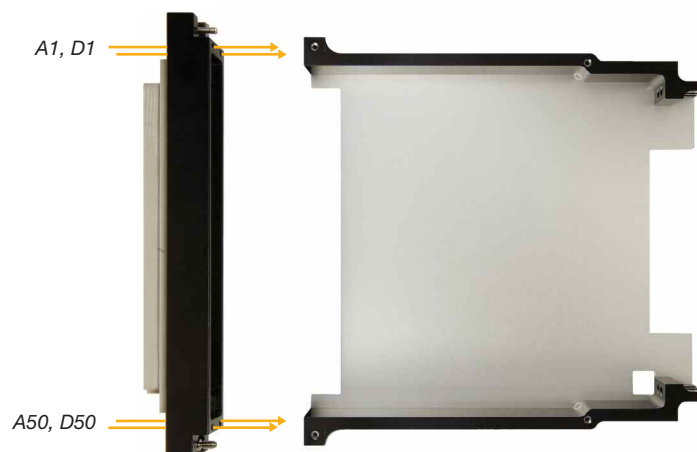

Figure 7 – Assembling carrier to adapter looking down
- b) Remove the four countersunk Phillips-head bolts from the side of the DAK adapter that does not have the cut-outs as shown in Figure 7. Keep the bolts ready for reassembly later.